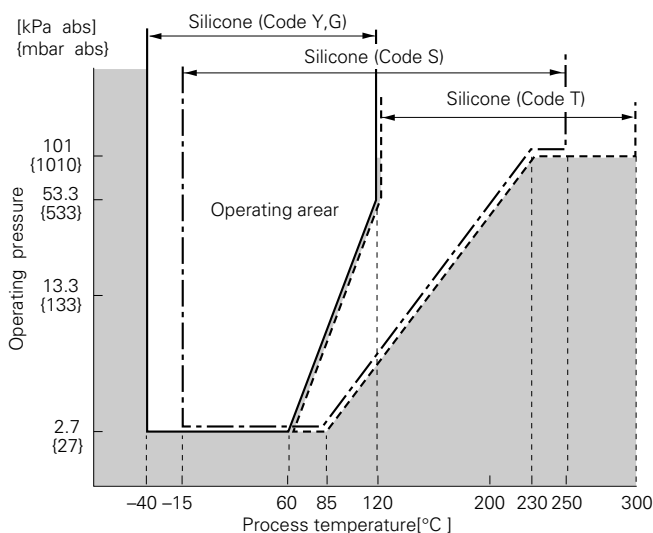
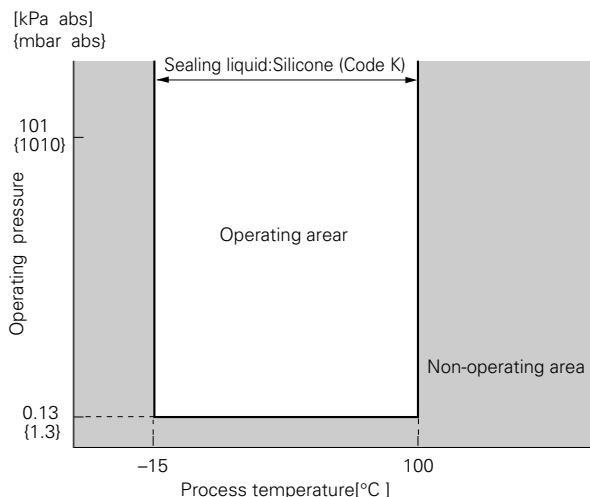

Fig. 1 Relation between process temperature and operating pressure
Fig. 2 Relation between process temperature and operating pressure
- Vacuum service:** Special silicone oil and filling procedure are applied. See Fig.1 and Fig.2